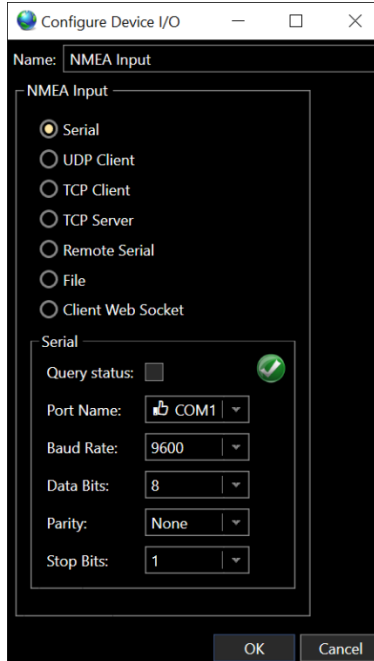

FIGURE 5-5 CONFIGURE DEVICE I/O
4. Click the  button, the Configure Device I/O dialog will open. See Figure 5-5
- b. Click the  button to open the Configure Device Communications dialog (see Figure 5-5); or